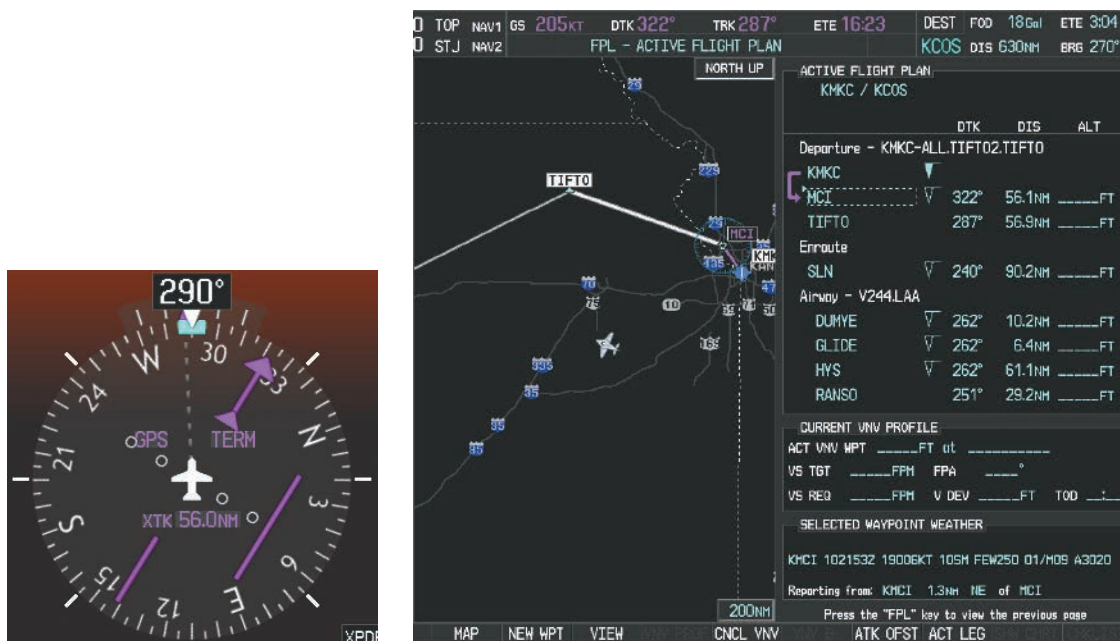

Figure 5-113 Assigned Heading of 290°
- 3) ATC now assigns routing to join V4. A heading of 290° is assigned to intercept V4. The aircraft turns to heading 290° as seen in Figure 5-113.